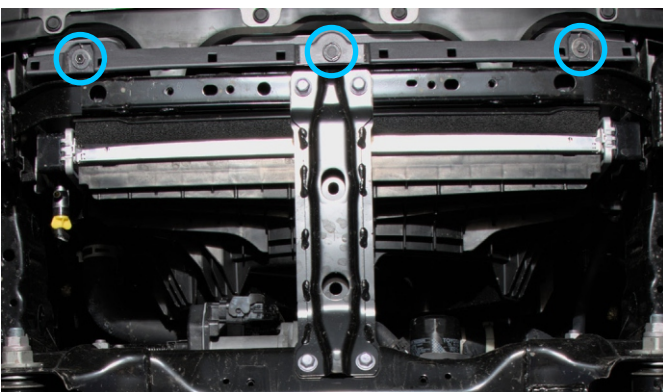

Fig. 5
5. Secure factory plastic cover to previously installed mounting bracket (item 2) using factory bolts from step 1 as shown in Fig.5.